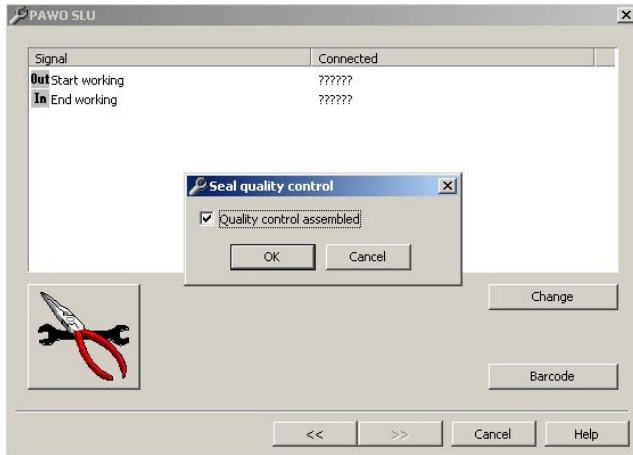

Figure 25
- g. Select the checkbox for Quality Control Assembled and select OK. See Figure 25. The “Seal Process Successfully” is now displayed.